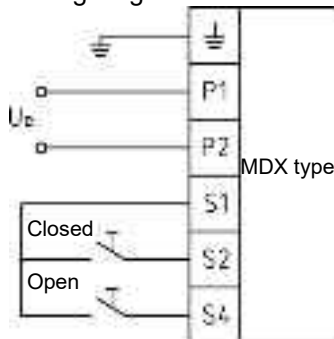

Figure 1 Wiring diagram of the MDX Electric Operating Mechanism
6.7 See Figure 1 for the wiring diagram of the electric operating mechanism.